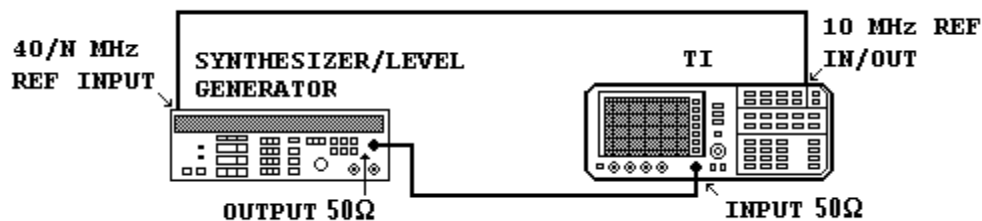

Figure 6. Frequency response - equipment setup.
(22) Adjust signal generator level output for a TI **MKR** amplitude indication between -9.95 and -10.05 dBm. Measuring receiver indication will be within ± 1.8 dB of indication recorded in (7) above.
(23) Record measuring receiver indication.
(24) Connect equipment as shown in figure 6.